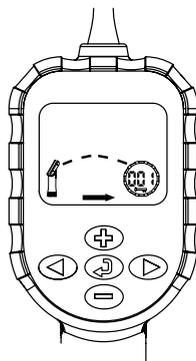

Figure 1
2. Use the (+) and (-) buttons to change the 3-digit identification number. Use the (▶) button to make sure that the WVP is in the transmit mode with the arrow on the display pointing towards the address icon (000) (see Figure 1).